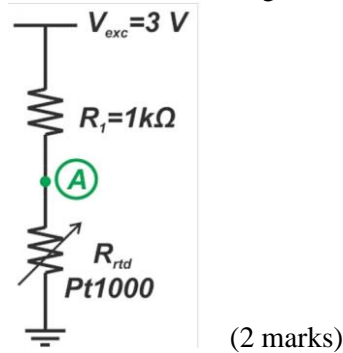

Figure 1: RTD with the circuit voltage divider
4. Calculate the resistance of RTD for the circuit shown in Figure 1, if voltage at point A is 1.6V.